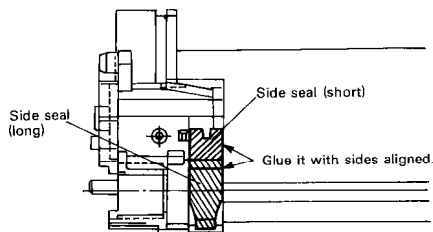

Figure 4-44 Front View (rear)
- 2) Attach the side seal as shown in Figures 4-44, -45, -46, and -47.